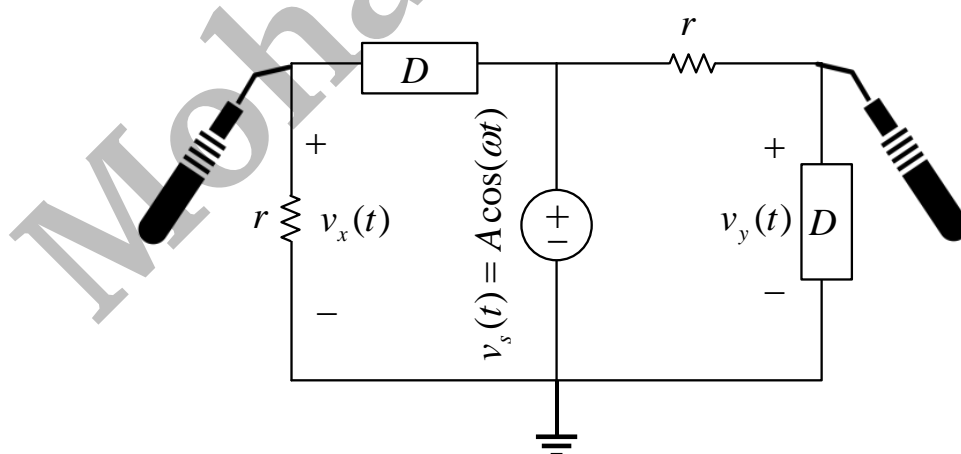

Figure 3: A test circuit for extracting the characteristic curve of a resistive element using oscilloscope.
**The experimental setup of Fig. 3 is used to display the Lissajous curve constructed by  $v_x(t)$  and  $v_y(t)$ , where  $D$  is a basic circuit element and  $r = 1 \text{ k}\Omega$ .**